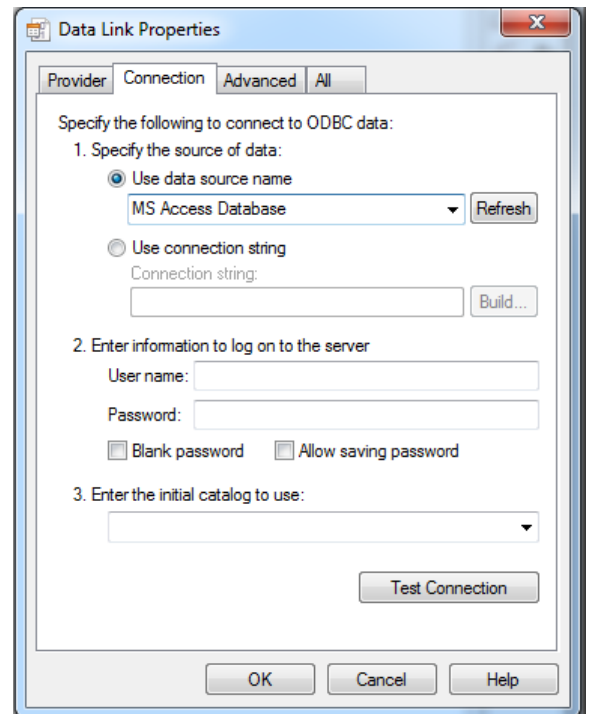

Fig. 5. Connection page from the dialog box *Data Link Properties*
- f) in the *Connection* page, in the area of the step 1, it shall be selected the option button *Use data source name*[7], see Fig. 5;